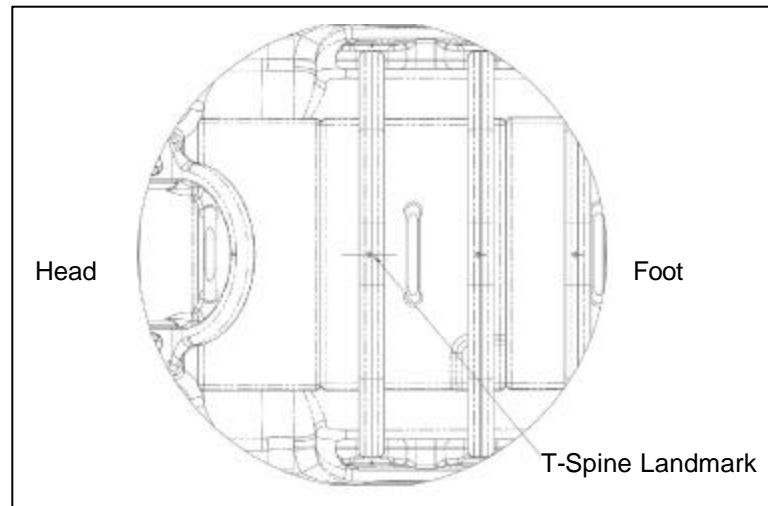

Figure 12: T-Spine landmark.
3. Landmark the coil in the center of the T-Spine section (see *Figure 12*).